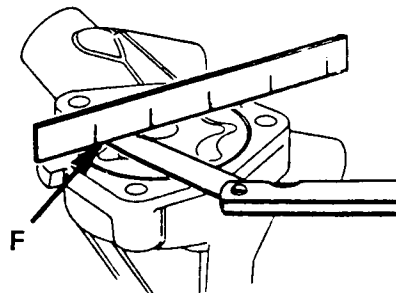

Fig B5.7
- (5) Refer to Fig B5.7. Check the outer ring end float (dimension F). Float to be 0,11 to 0,12 mm.
- (6) Check rotor end float. To be 0,11 to 0,14 mm.